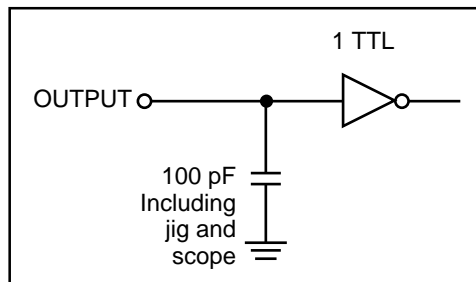

Figure 1
Output Load	See Figures 1 and 2
- Test conditions assume signal transition times of 5 ns or less, timing reference levels of 1.5V, input pulse levels of 0.4V to 2.2V and output loading specified in Figure 1.
1. Test conditions assume signal transition times of 5 ns or less, timing reference levels of 1.5V, input pulse levels of 0.4V to 2.2V and output loading specified in Figure 1.